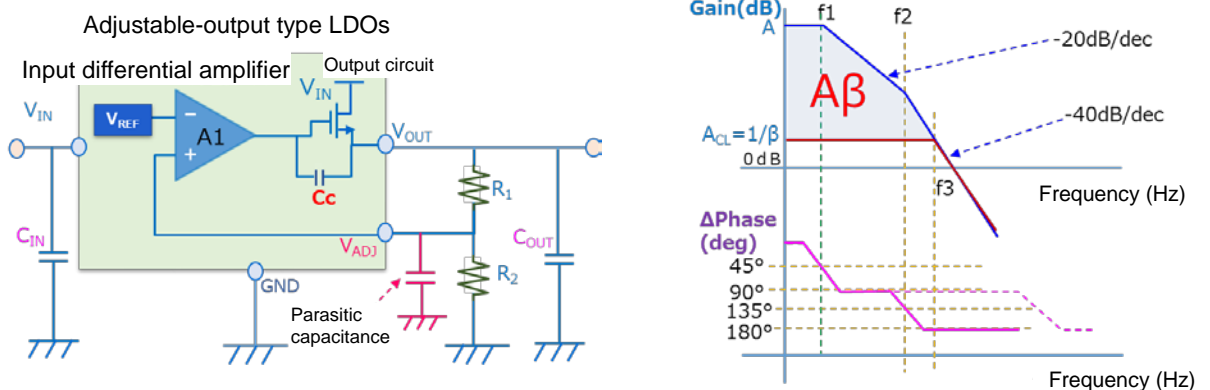
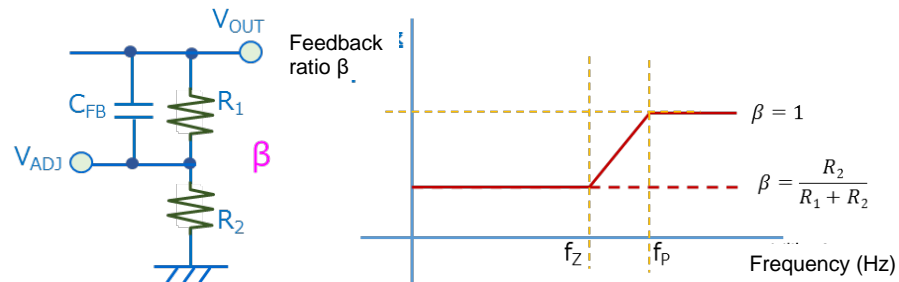
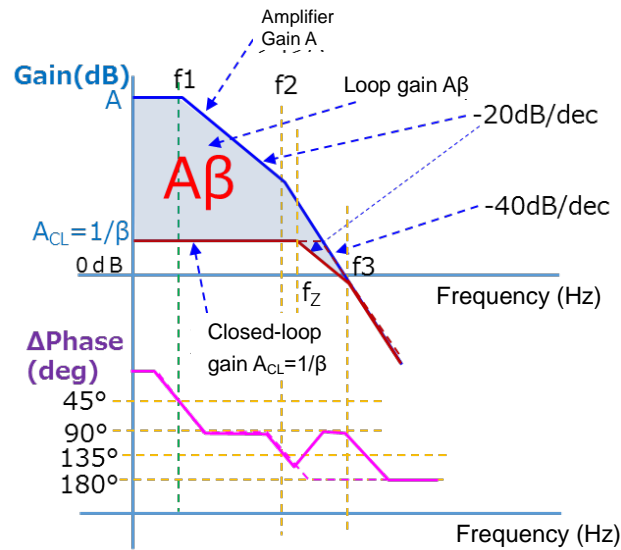

Figure 6.1.2 Frequency response of an adjustable-output LDO when its feedback pin (A_{ADJ}) has parasitic capacitance
Figure 6.1.3 Feedback factor (β) when a phase compensation capacitor (C_{FB}) is connected in parallel with an external resistor (R_1)
Figure 6.1.4 Closed-loop gain (A_{CL}) vs frequency, loop gain ($A\beta$) vs its phase when there is a phase compensation capacitor (C_{FB})
For example, an LDO might have a second-order characteristic in the frequency range in which the loop gain ($A\beta$) > 0 dB (i.e., 1) if the feedback pin (V_{ADJ}) of an adjustable-output LDO has parasitic capacitance as shown in Figure 6.1.2.
In Figure 6.1.2, the phase shift of the loop gain ($A\beta$) reaches 180° at frequency f_3 at which the loop gain is 0 dB (i.e., 1), causing the LDO to oscillate. With only an external resistor (R_1), the feedback factor (β) is constant regardless of frequency. However, when a phase compensation capacitor (C_{FB}) is connected in parallel with R_1 , the feedback factor (β) becomes dependent on frequency as shown in Figure 6.1.3.
When there is no phase compensation capacitor (C_{FB}), the feedback factor (β) is constant at $R_2/(R_1 + R_2)$ irrespective of frequency. With a phase compensation capacitor (C_{FB}), the slope of the feedback factor (β) changes at frequencies f_Z and f_P as shown in Figure 6.1.3. f_Z and f_P are determined by:
When the feedback ratio β has the frequency characteristics shown in Figure 6.1.3, the closed-loop gain (A_{CL}) (which is equal to the reciprocal of the feedback factor ($1/\beta$)), the loop gain, and the loop gain-vs-phase curve change as shown in Figure 6.1.4.
Figure 6.1.4 indicates that the gain of the LDO's internal amplifier has two poles at f_1 and f_2 . The closed-loop gain ($A_{CL} = 1/\beta$) begins to fall at the rate of -20 dB/dec at a pole frequency of f_z . The loop gain ($A\beta$), which is represented by the difference between the gain (A) and the closed-loop gain ($A_{CL} = 1/\beta$) of the LDO's internal amplifier, has two poles at f_1 and f_2 before the loop gain reaches 0 dB (i.e., 1) at f_3 . However, at the pole f_z of the closed-loop gain ($A_{CL} = 1/\beta$), the rate of fall of the loop gain decreases from -40 dB/dec to -20 dB/dec.